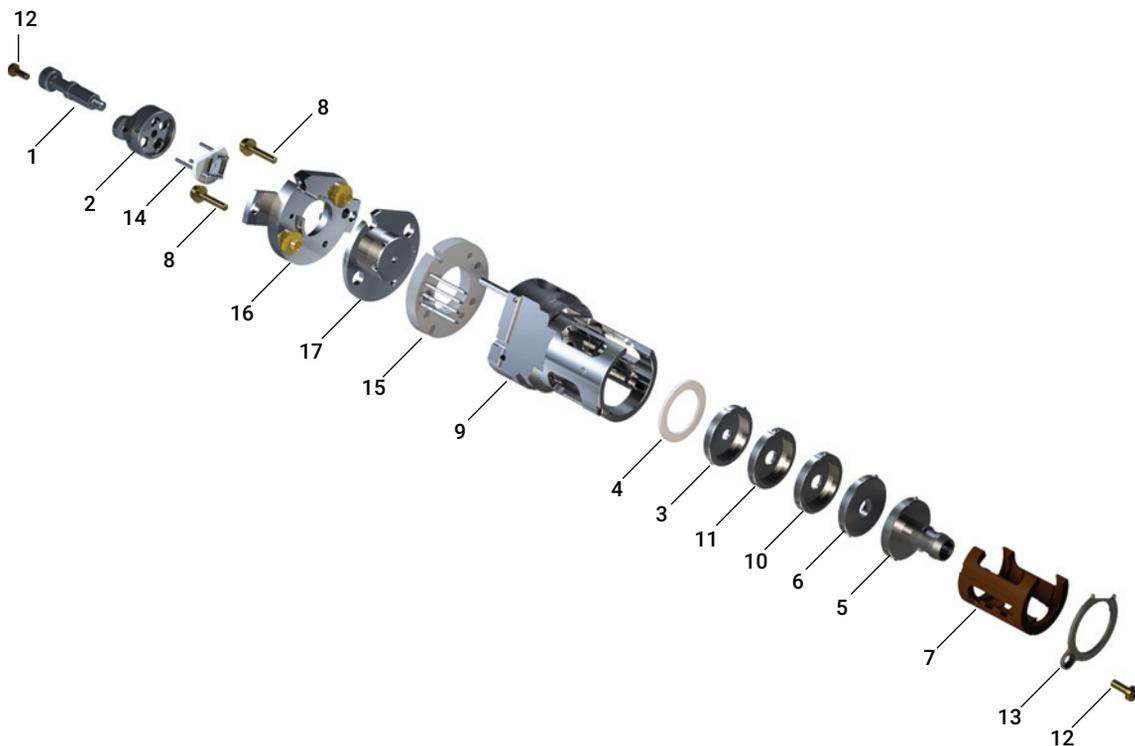

Figure 61. Assembling the EI HES
Refer to the exploded parts view and the EI HES parts list while using this procedure. (See Figure 61 and Table 20 on page 195.)
- 3 Insert the lens stack encased in the insulator into the source body. (See **Figure 61** on page 195.) The engraved numbers face the full opening extending to the end of the source body. Verify that the ceramic is sitting flush at the end of the source body.
- 9 Thread the finger grip into the filament block. (See Figure 61 and Table 20 on page 195.)
**Table 20** Parts list for EI HES (Figure 61)
Table 20 Parts list for EI HES (Figure 61) (continued)